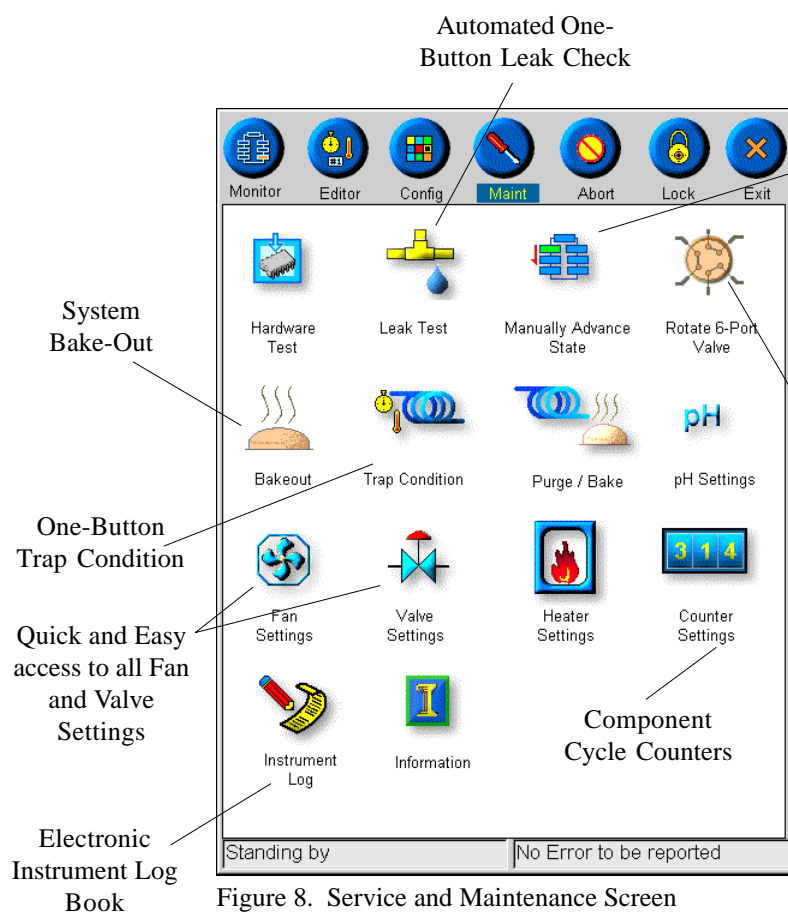

Figure 8. Service and Maintenance Screen
- Full access for manual operation of all valves, fans, heated zones, and states from an easy-to-understand graphic service/maintenance screen (see Figures 8, 8a, and 8b).